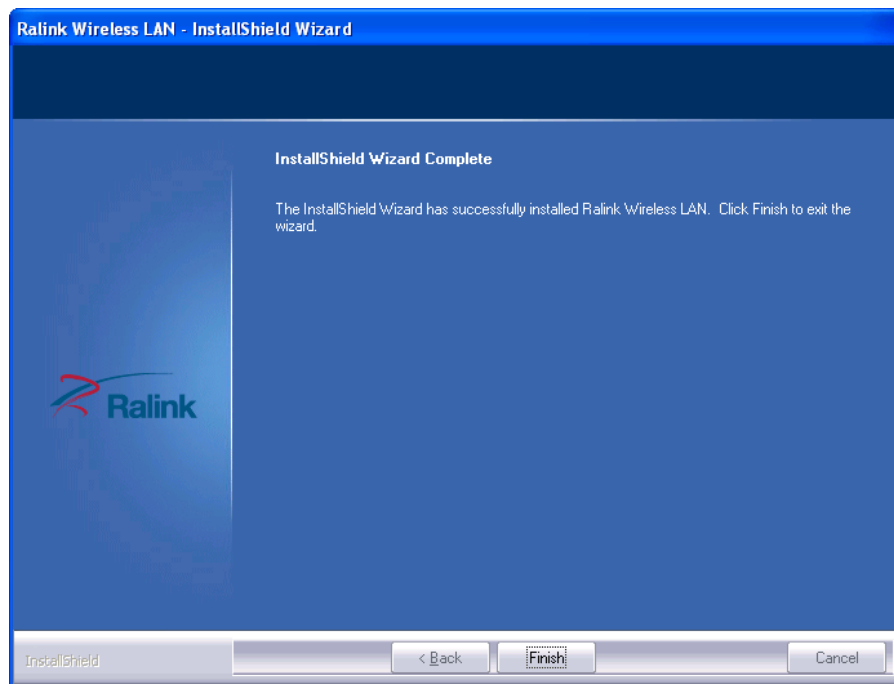

Figure 3-6: Installation Complete
Step 12: When the driver installation is complete, the screen in **Figure 3-6** appears.